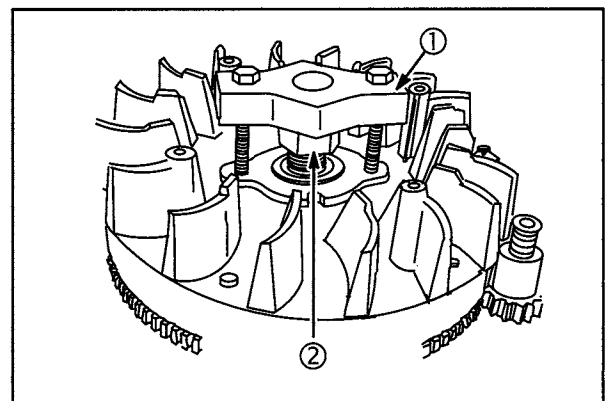

Fig. 16
1. Reinstall flywheel nut (2). Turn nut down flush with top of threads, Fig. 16.
2. Install Flywheel Puller #19203 (1).